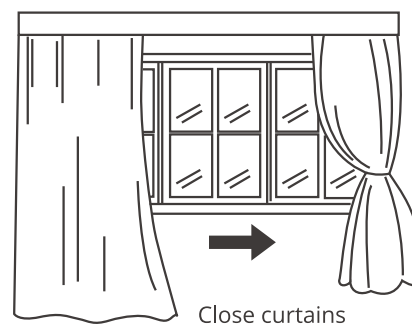

Fig.8
- Protect the room from direct exposure to the sun by partially closing curtains and/or blinds to make the appliance much more economical to run (fig.8);